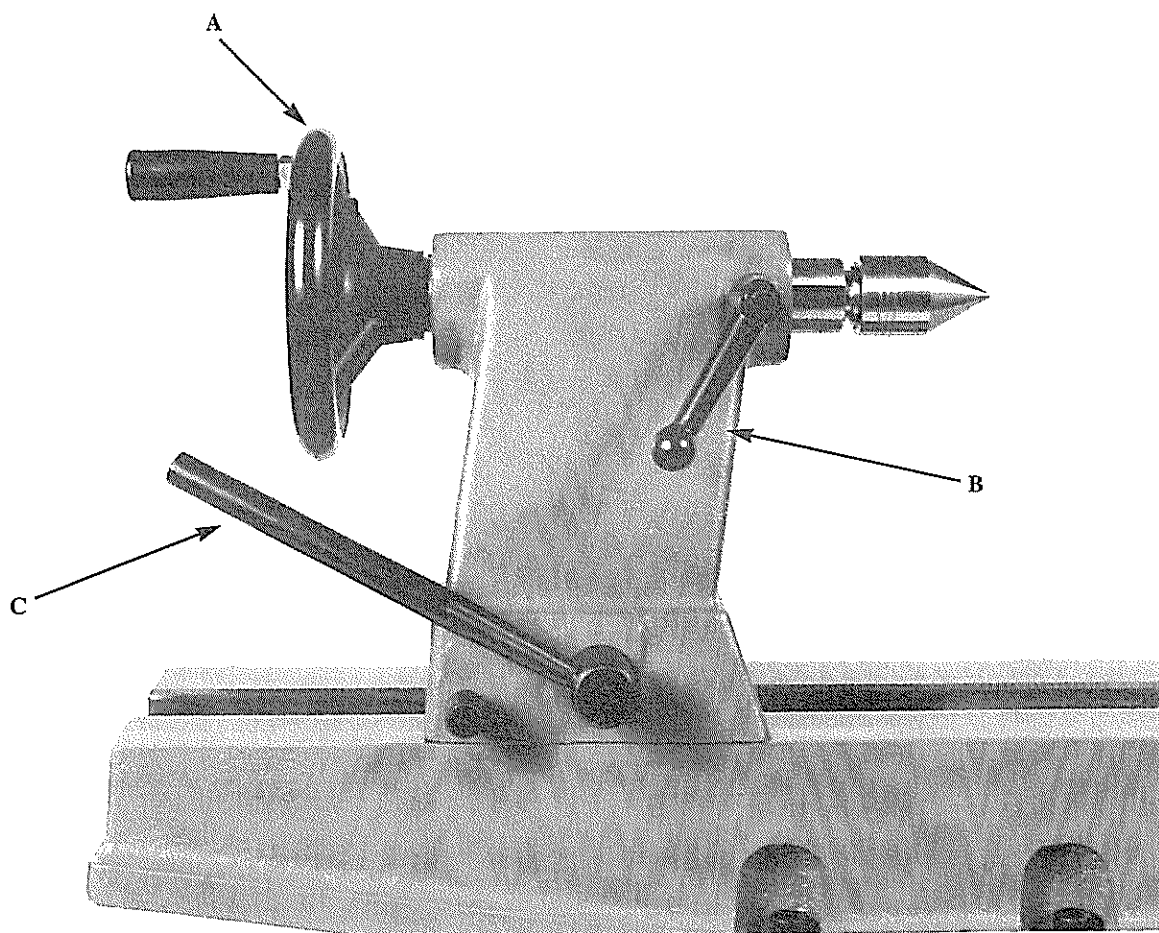

Fig 4
11. The tailstock (See Fig 4 Page 11) should slide freely with the side mounted locking lever on its rest. If not, slightly undo the nut located between the lathe bed bars beneath the tailstock. The tailstock should lock the lever raised approximately 45°. Fit the handwheel knob.
TAILSTOCK HANDWHEEL (A Fig 4)
TAILSTOCK SPINDLE LOCK (B Fig 4)
TAILSTOCK LOCK (C Fig 4)